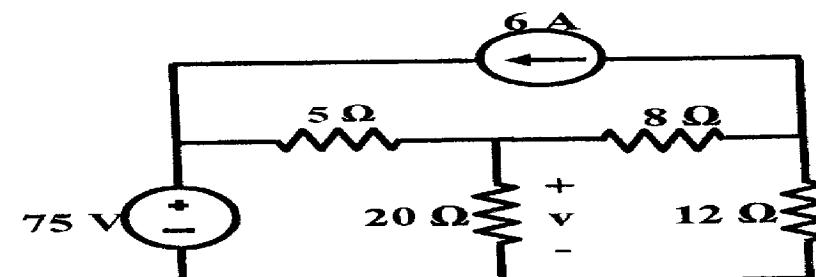

Fig4
- (4) Use the principle of superposition to find the voltage v in the circuit of Fig. 4 and find the power dissipated in the 20Ω resistor.